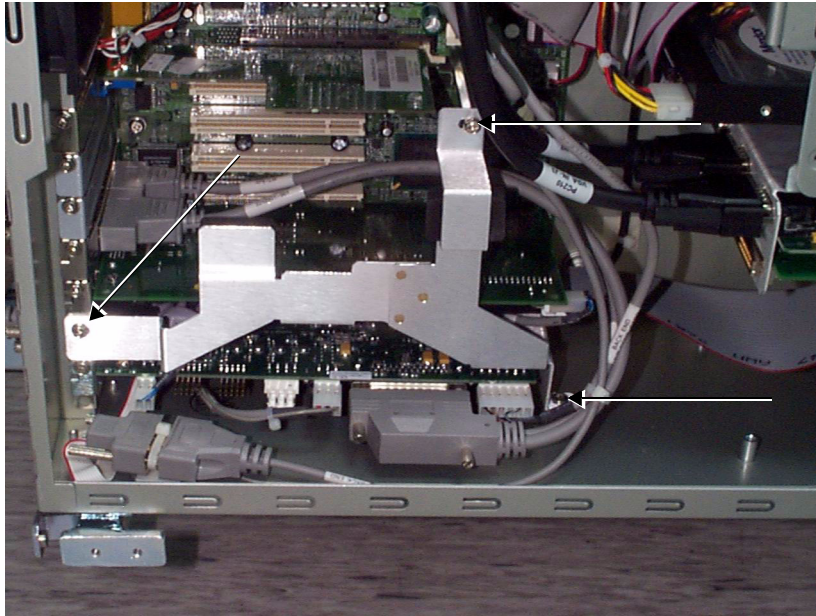

Figure 8-62 Octopus Card Holder - BEP1
- 1) Remove the three screws that secure the Octopus Card Holder in position as shown in Figure 8-62 below.
- 2) Return the three screws and tighten them to hold the Octopus Card Holder securely in position, as shown in Figure 8-62, above.